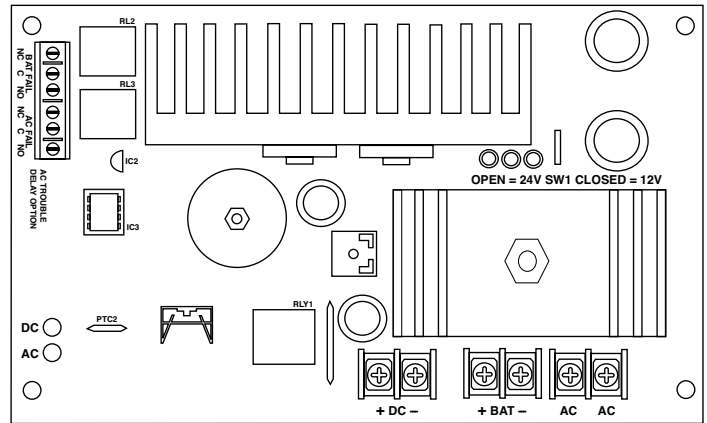

Fig. 1
5. Connect devices to be powered to the terminals marked [+ DC -] (Fig. 1, pg. 2).
Connect battery to the terminals marked [+ BAT -] (Fig. 1, pg. 2).
7. Connect appropriate signaling notification devices to [AC FAIL & BAT FAIL] (Fig. 1, pg. 2) supervisory relay outputs.